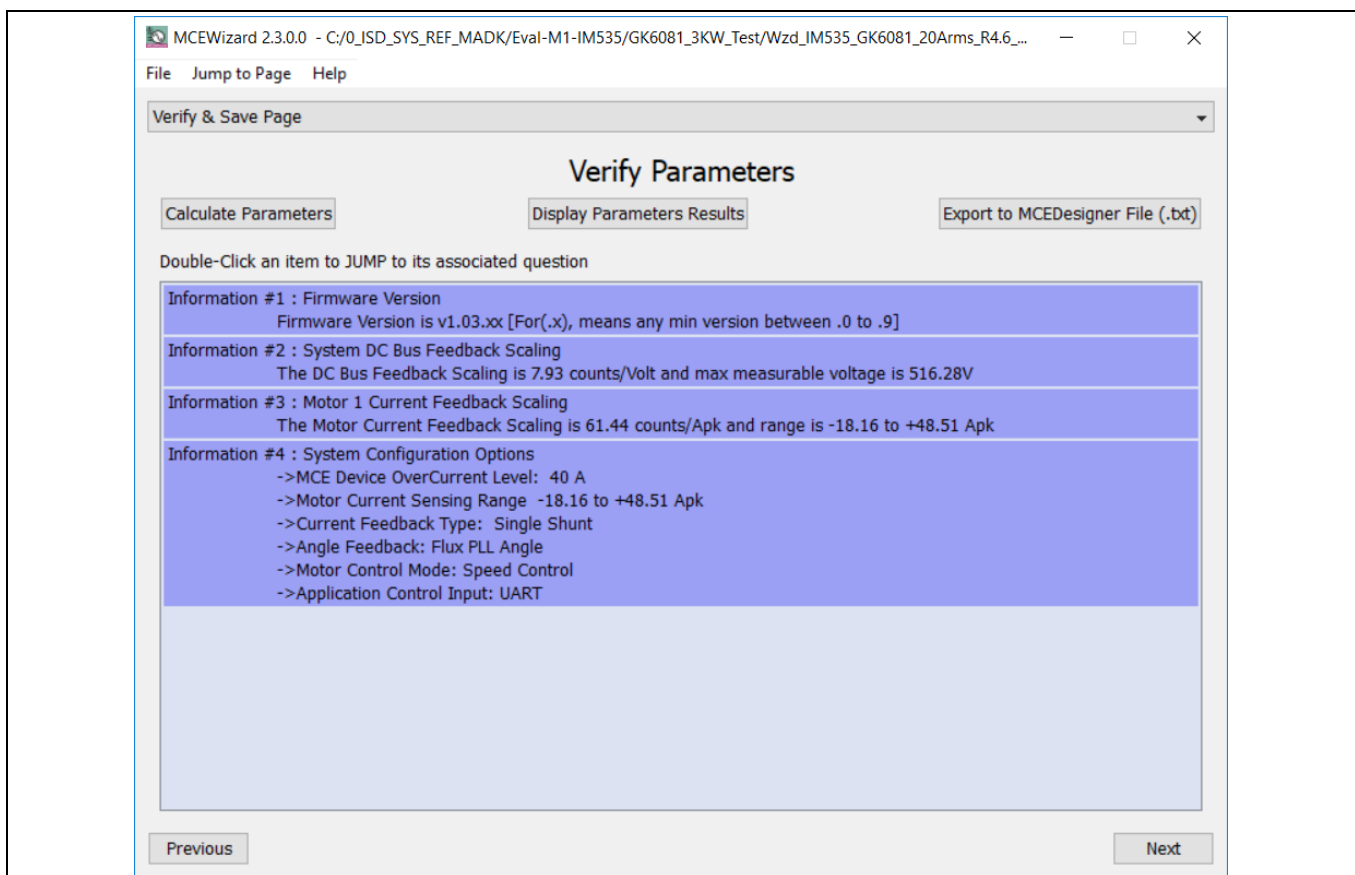

Figure 6 MCEWizard Verify and Save page
4. After system and operating parameters are set, go to the “Verify & Save Page” and click on “Calculate Parameters” button. If no errors are reported, then save the drive parameter set into your project directory by clicking “Export to MCEDesigner file (.txt)” (Figure 6); if an error is detected, double-click on the error message (highlighted in **RED**) and adjust the related parameter. The saved drive system parameter file will be later used by the MCEDesigner in step 9.